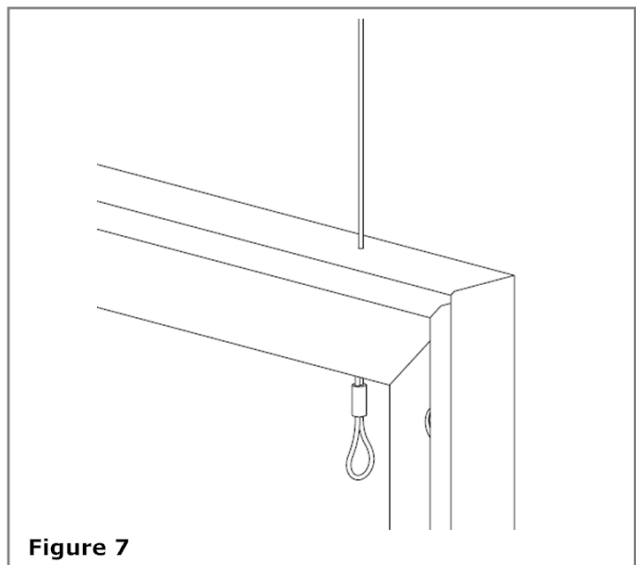

Figure 7
2. Secure support cable using a cable locking mechanism. **See Figure 7.**